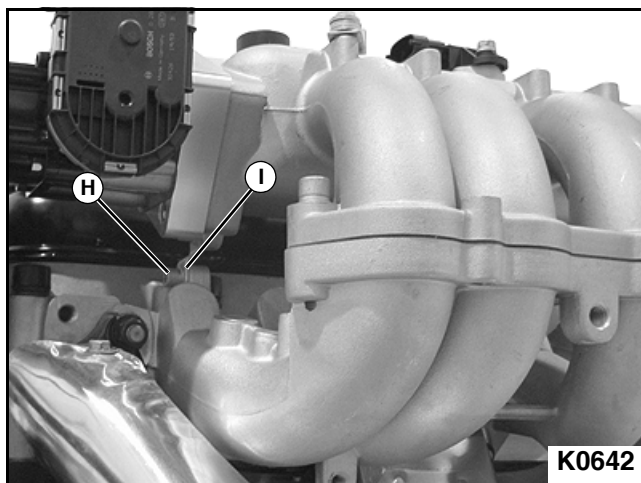

Figure 3-73
5. Tighten mounting bolt (H) securing upper intake manifold to bracket (I). **See Figure 3-73.**